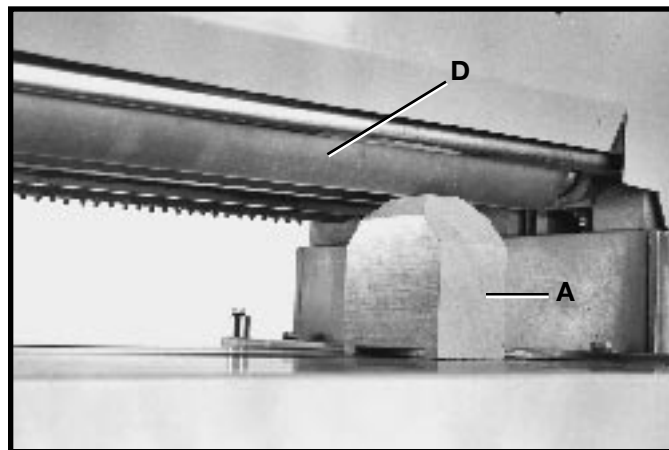
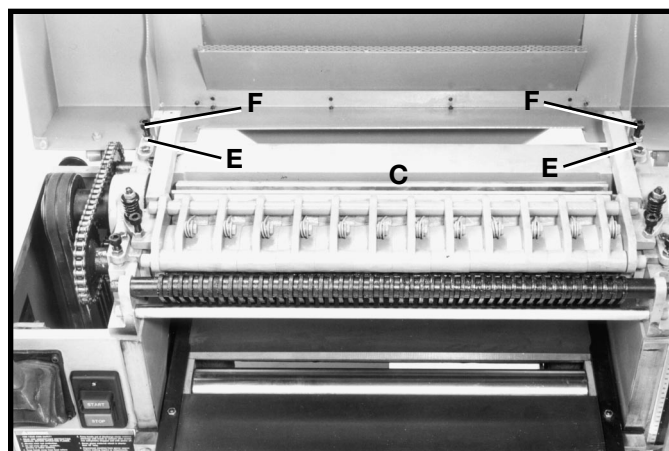

Fig. 44
Fig. 45
4. Place gage block (A) Fig. 44, under outfeed roll (D). The bottom of roll (D) should just touch gage block (A).
5. If an adjustment is necessary, loosen locknut (E) Fig. 45, and turn adjustment screw (F) until the outfeed roller just touches the top of gage block (A) Fig. 44.
7. Tighten locknuts (E) Fig. 45 after adjustments are completed.